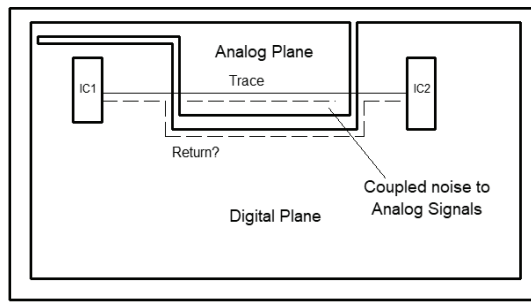

Figure 4.4
4.2.5 Crossing Unrelated Planes: We often try to isolate certain types of circuits from other ones. Separating analog circuits from digital ones is routine. An engineer might want to set up two different digital areas if it is critical that they be isolated from each other for noise purposes. Standard practice is to never allow a trace to cross over an unrelated plane. Figure 4.4 illustrates why. A digital signal trace crosses over part of an analog plane. Where will the return signal be? There are two possibilities, both of them bad! One possibility is that the return signal will find its way onto the analog plane. This may reduce the loop area but it will in all likelihood allow noise coupling between the digital and analog signals, defeating the whole purpose for separate circuits in the first place. The other possibility is that the return signal will stay on the (in this case) digital plane, resulting in a loop that might well radiate and cause EMI problems. The solution is to never route a signal over an unrelated plane.